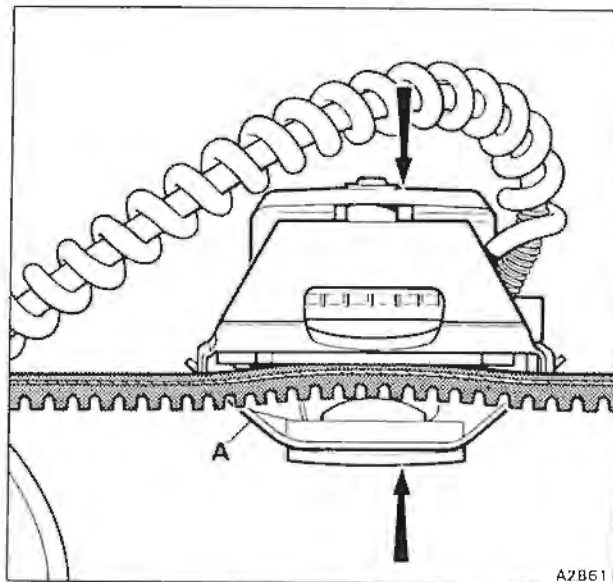

Fig. N5-1 Clamping unit
The tension meter consists of two main components, the clamping unit, incorporating a hydraulic cylinder and a trigger operated read-out unit (see fig. N5-1).
5. Belt tension readings should always be taken over one belt only. Therefore, the belt blocker should be fitted prior to using the gauge for the first time and thereafter remain in position in the clamping unit (see fig. N5-1).
6. Open the jaws of the clamping unit by applying pressure at the two points indicated by the arrows in figure N5-1.